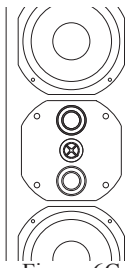

Figure 6C
C. Carefully lift up the metal mounting plate to clear the cabinet opening. Rotate it 90 degrees from the current orientation and then reinsert it back into the cabinet. Refer to figure 6C.